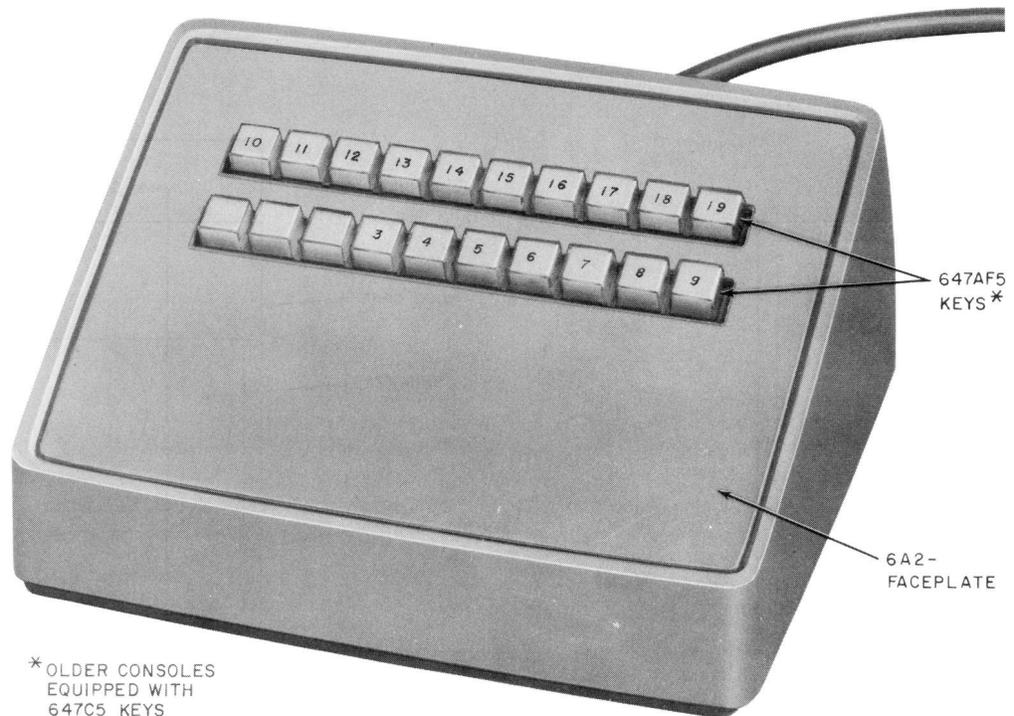

Fig. 4—6B1 Selector Console (MW)
**2.10** The 6B1 selector console (Fig. 4) is a 20-button console providing a 17-button message waiting field. Three buttons are not used. Ivory (-50) is the standard console color, and a 6A2—(refer to Table A) faceplate must be ordered with each console. Current 6B1 consoles are shipped with an ivory (-50) mounting cord rather than satin-silver (-87). The 6B1 selector console is normally used in addition to the attendant telephone set to provide the message waiting feature.